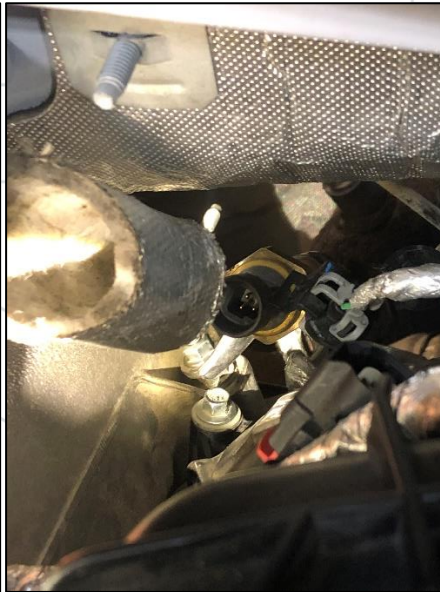

Figure 3: Insulation Removal
- d. Remove all electrical connections and wires from the intake. Also removing the exhaust pressure sensor insulation (Figure 3) and wire clip can aid in access to intake fasteners.